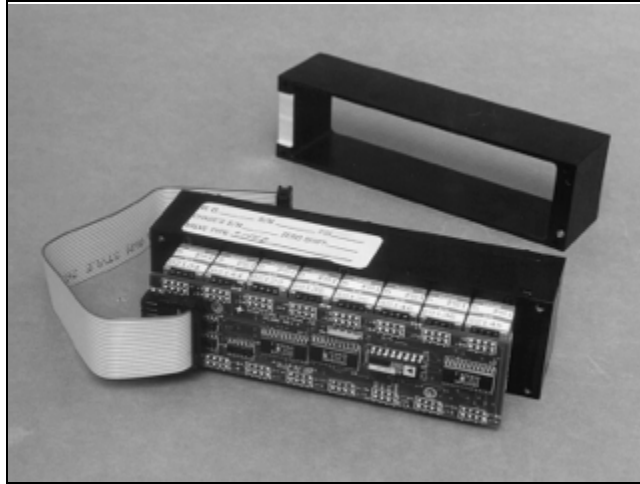

Figure 5.4
- (1) Remove the scanner module from the 98RK-1 and disassemble it as described in **Section 5.1.2**. Remove the transducer/cal-valve housing from the top chassis rail. Carefully remove the ribbon cable from connector P1 of the PC-206 board. Note the orientation of the PC-206 relative to the rest of the module to ensure the new PC-206 is installed in the same position. See **Figure 5.4**, next page.
- (2) Remove the two (2) Phillips-head screws securing the PC-206 board to the DH200 transducers. Carefully disconnect the PC-206 board from the DH200's by slowly working the board off the DH200s, starting at one end and moving down the length of the board. It is important that the gold pins are not bent when removing the board.